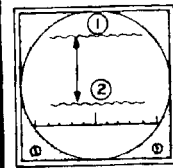

Figure 3
- () Carefully tune the signal generator (around the 350 kc mark) to the point where the CRT trace moves as far above the screen base line as it will go as shown at 1 of Figure 3. Turn the PIP GAIN control counterclockwise if the CRT trace has moved upward and completely off the CRT screen.
- () Using a small screwdriver or prepared alignment tool, adjust the slug of L1 until the CRT trace moves down toward the screen base line. The correct adjustment of L1 is at the point where the CRT trace moves the closest to the screen base line. See 2 of Figure 3.